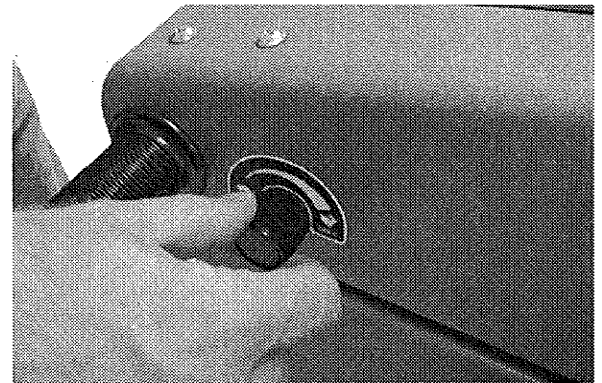

FIG. 13
3. Turn speed control knob to slowest setting (Figure 13).
- Turn speed control knob to slowest setting (Figure 13).